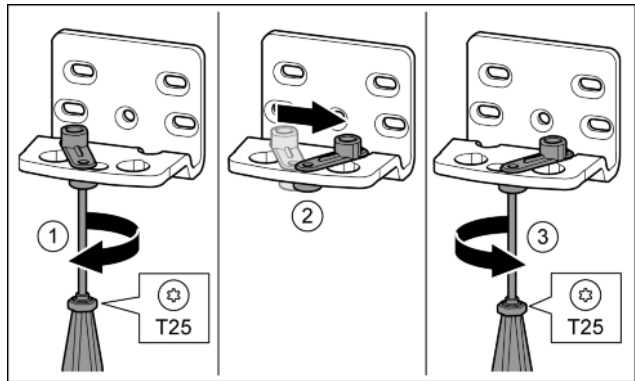

Fig. 13
- ▶ Loosen the screw using a T25 screwdriver. Fig. 13 (1)
- ▶ Lift the door closure aid and turn it 90° to the right in the hole. Fig. 13 (2)
- ▶ Tighten the screw using a T25 screwdriver. Fig. 13 (3)